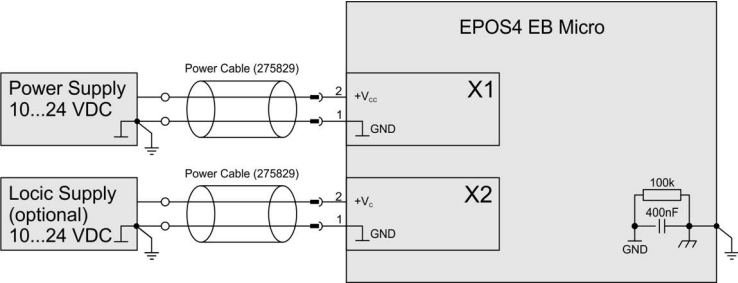

Figure 5-51 Power & logic supply
5.1.2 EC (BLDC) Motor**Power supply & optional logic supply** Figure 5-51**Motor & feedback signals**